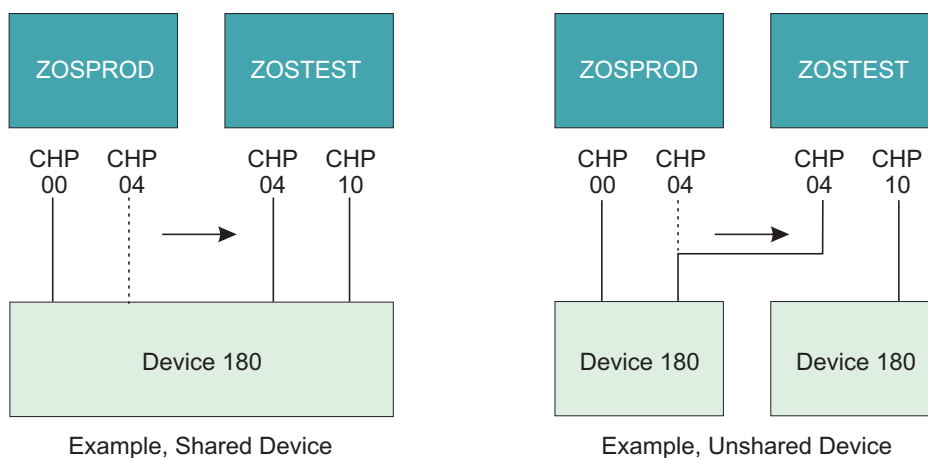

Figure 22. Two examples of duplicate device number conflicts
Examples of duplicate device number conflicts: Figure 22 provides two examples of duplicate device number conflict.
The following example shows the IOCP statement for Figure 22. Both examples use identical IOCP statements.
In Figure 22 on page 63, ZOSTEST can access device 180 only through channel path 10 if the operator takes no action in response to the conflict message.
1. Configure offline the original channel path (CHP 10 in Figure 22).
2. Configure offline and then online the reassigned channel path (CHP 04 in Figure 22).
3. If necessary, configure online the original channel path (CHP 10 in Figure 22). Another conflict message is issued because a new conflict has been created. The operator then ignores this conflict as described in option A. (Access is still allowed to any nonconflicting devices on the original channel path.)
In Figure 22, ZOSTEST can access device 180 only through channel path 04 if the preceding steps are performed in response to the conflict message.
In Figure 22 (shared device), ZOSTEST can access device 180 through CHP 04 and CHP 10 if CHP 04 is defined to ZOSTEST in the IOCDS.
In Figure 22 (unshared device), ZOSTEST can access either device 180 (unshared device) if one or both of the devices are assigned a new device number in the IOCDS.
In Figure 22, if ZOSTEST is not active when CHP 04 is reassigned, or ZOSTEST is deactivated and then activated after CHP 04 is reassigned, ZOSTEST does not activate until the conflict over device 180 is resolved.